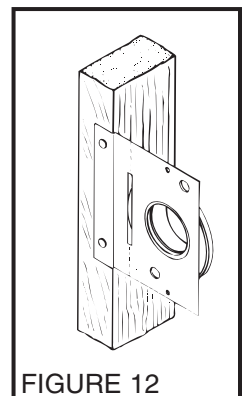

FIGURE 12
6. When using Model CF329, glue elbow to mounting plate. Attach to stud as shown in Figure 12.